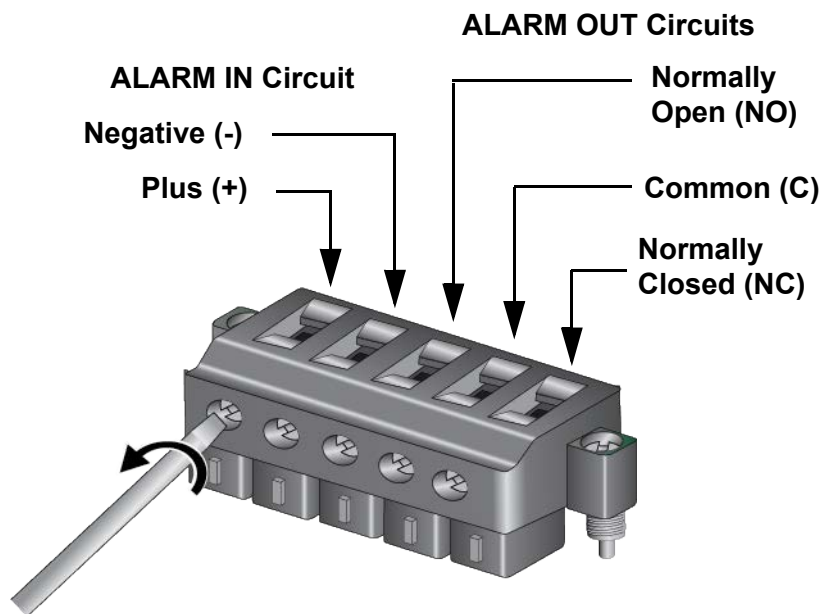

Figure 49. Loosening the Wire Retaining Screws on the ALARM IN / ALARM OUT Plug
6. Use a #1 screwdriver to loosen the wire retaining screws that correspond to the connector pins of the selected ALARM IN and ALARM OUT circuits. Refer to Figure 49.